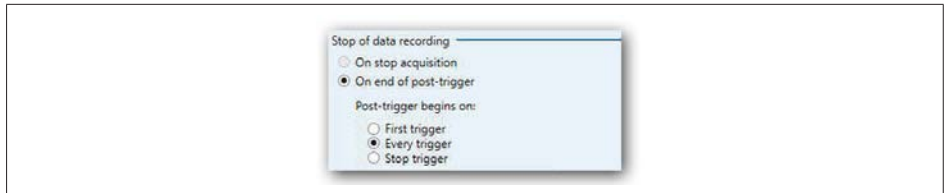

Fig. 9.26 Stop of data recording
- C In the **Stop of data recording** area, select the **On end of post-trigger / Every trigger** checkboxes (see Fig. 9.26).